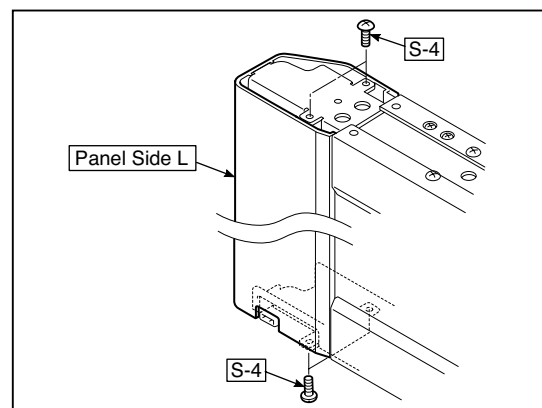

Fig.10
4) Remove the Panel side L. (See Fig. 10)
- 1.Remove the “S-4” screws shown in the figure10.